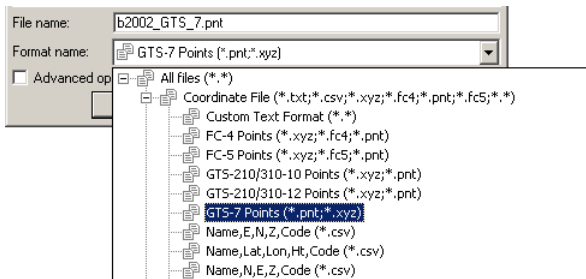

Figure 4-1. File Format
2. To select the file format, use the *Format name* drop-down list select the file format, if known (Figure 4-1).